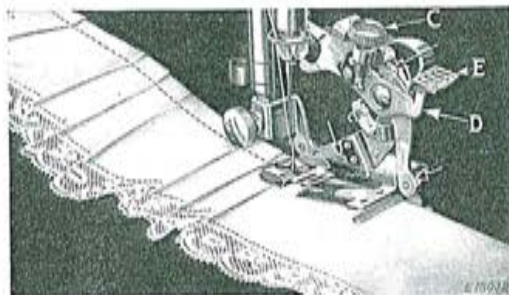

Fig. 56
The Ruffler can be adjusted for group plaiting by lifting the adjusting lever (E, Fig. 56) and moving
it to the right so that the top of the projection (D, Fig. 56) enters the small slot indicated by the star on the adjusting lever. This should be done at the points where you wish to make the space between the plaits. The Ruffler will then stop and plain stitching will be made. When the desired space has been made, adjust the lever (E) so that the projection (D) enters either the slot marked "6" or the slot marked "12." By alternately making groups of plaits and plain spaces, as shown in Fig. 56, very attractive work can be produced.
Occasionally apply a drop of oil to the working parts of the Ruffler at each of the places indicated by the unlettered arrows in Fig. 56. After oiling, operate the Ruffler on a waste piece of material to prevent the oil soiling the work. If the Ruffler does not plait evenly, a drop of oil may remedy the trouble.